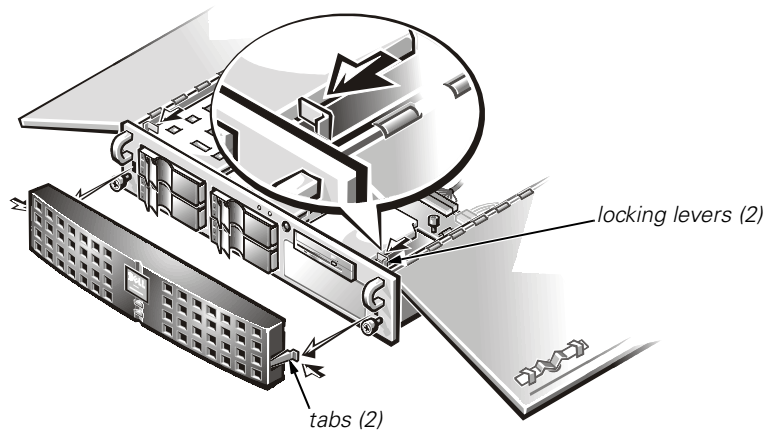

Figure 1-9. Removing the System Bezel
| Figure 1-9. Removing the System Bezel | 1-11 |
2. Remove the optional bezel from the system front panel (see Figure 1-9):
- b. Pivot the two locking levers toward the back of the chassis (see Figure 1-9).